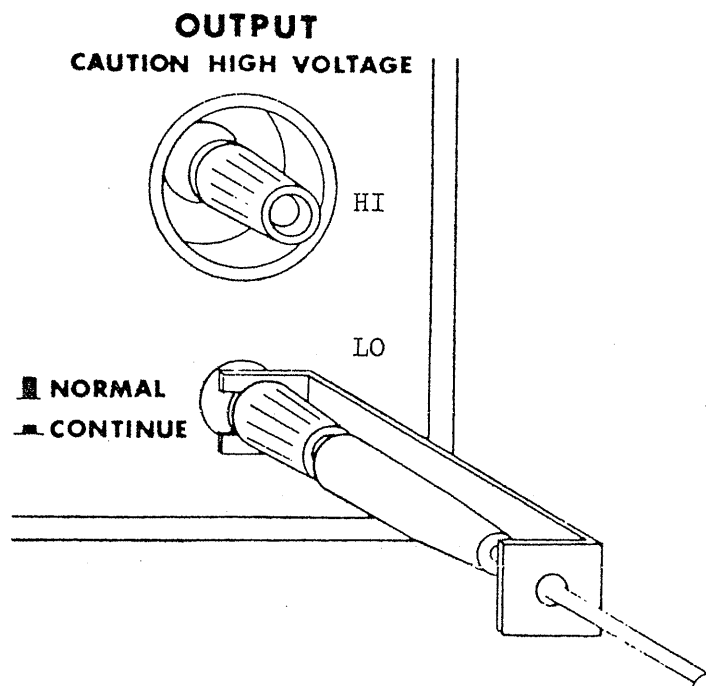

Figure 3.3
- (1) The connection method of the test cable of the 10 voltage line is shown in Figure 3.3. Be sure to check this cable against open-circuiting each time the instrument is used.
- (2) Regarding the cable connection to the measured object, securely connect the cables starting with the IO voltage cable. Note that, if the connection is incomplete, the overall measuring circuit may become a floating state and a voltage may build up.
- (3) When operating the instrument, be sure to wear gloves in order to protect against electric shocks.